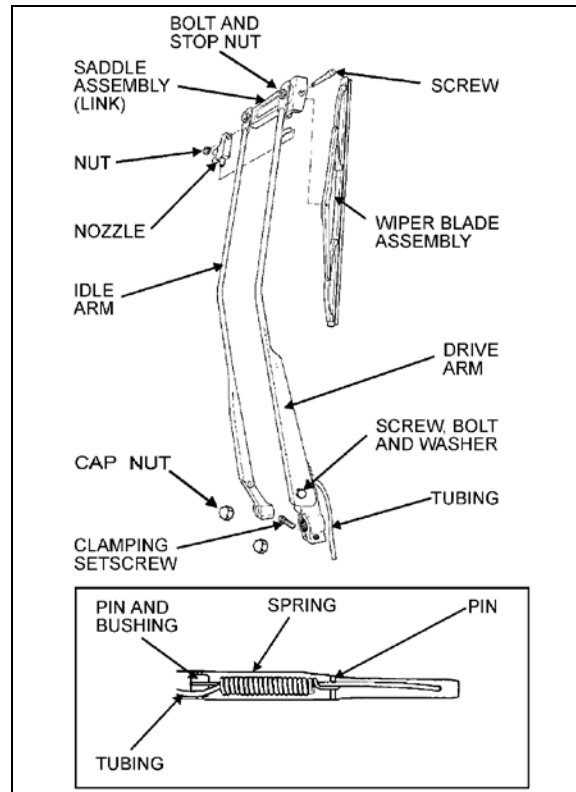
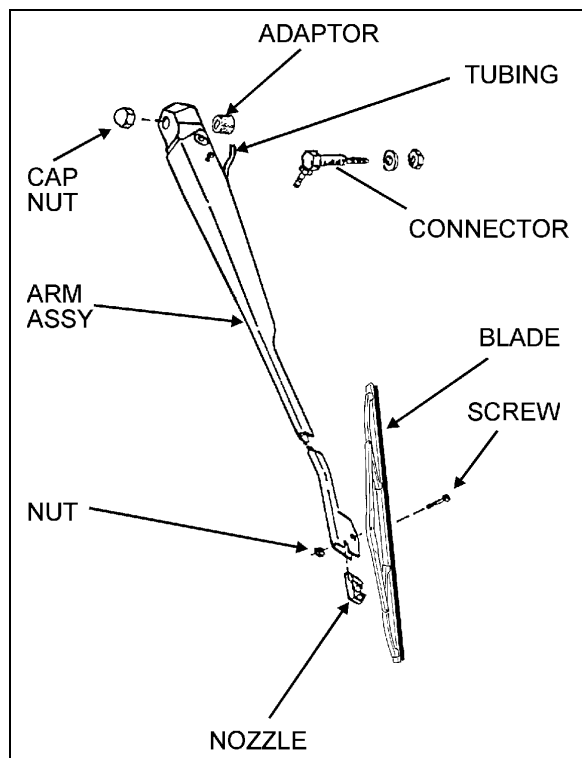

FIGURE 36: LOWER WINDSHIELD WIPER
FIGURE 37: UPPER WINDSHIELD WIPER 23087
1. Remove the cap nuts from the wiper arm pivot shafts (Figure 36 & Figure 37);